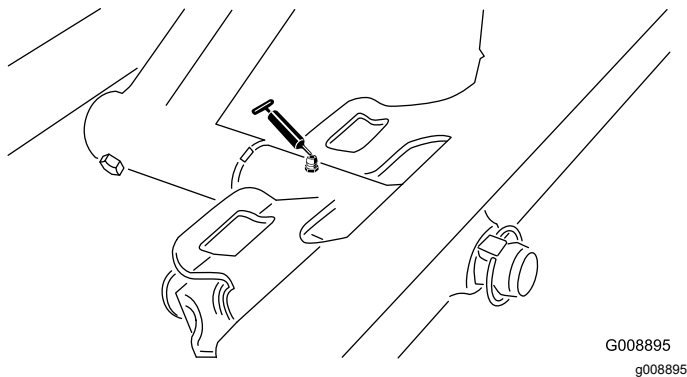

Figure 46
- Front cutting unit pivot (Figure 46)